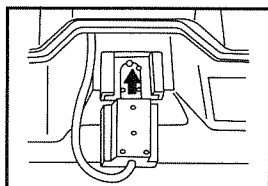

Fig.9
7. Insert the sync connector into the accessory shoe of the camera as shown in Fig. 9.